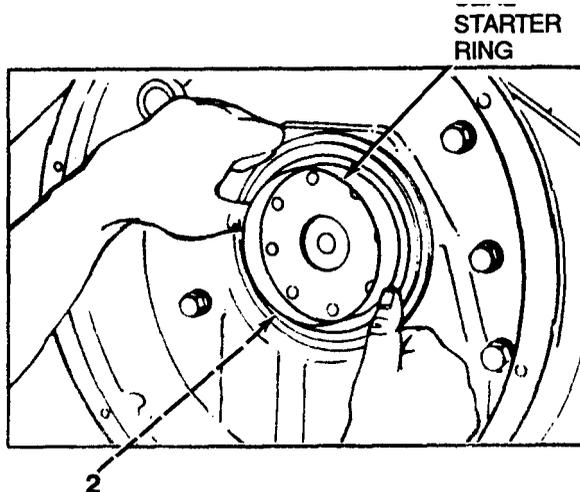

Figure 6-10
5. Using a seal starter ring, install rear seal (2, Figure 6-10) on crankshaft.